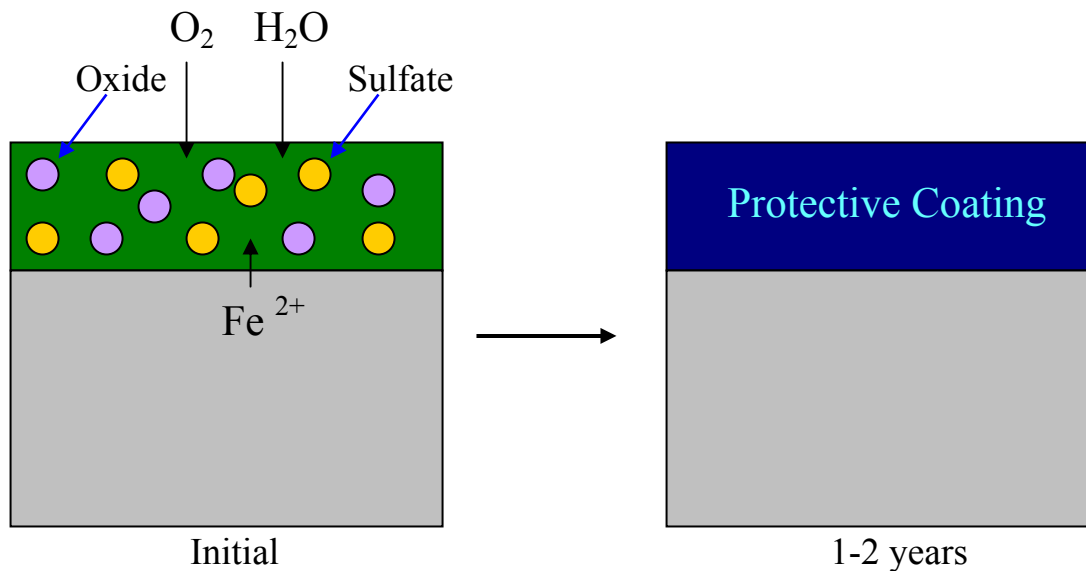

Fig. 1: Formation Process of the Protective Patina that is adherent to the steel.
**PatinaForma™** consists of several specific oxides and sulfates as well as usual paint species. This treatment enables the rapid formation of the protective coating composed mainly of densely aggregated rust particles and the specially designed chemical compounds that control chlorine, oxygen and water diffusion, as shown in Figure 1.